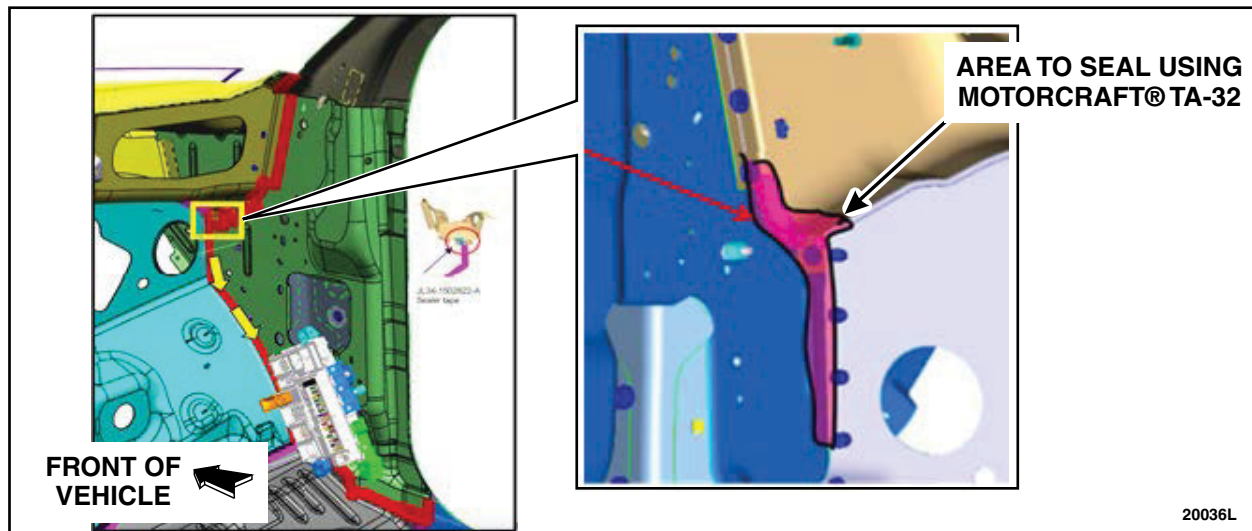

FIGURE 12
23. Using Motorcraft® TA-32 Clear Silicone Rubber Sealer or equivalent, apply a bead along the body patch and allow it to dry. See Figure 12. Retest by performing Step 19 once the Clear Silicone Rubber is dry.